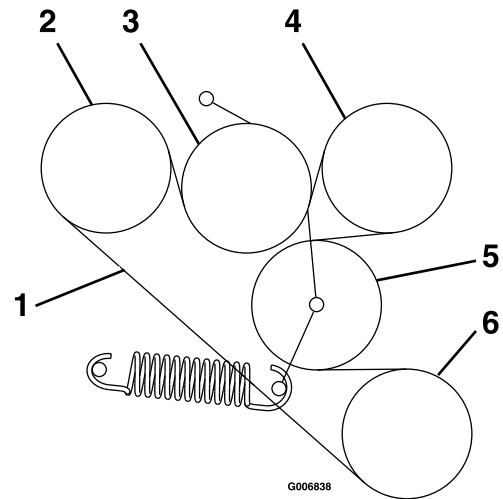

Figure 11
4. Route new belt onto sheaves as shown in the decal located on the back of the left drive shield (see Figure 11).